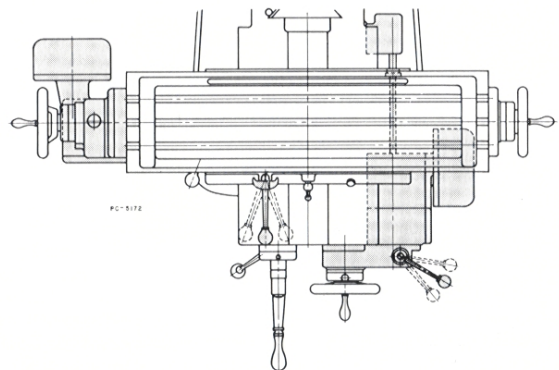

Figure 17B
**Starting the Machine**—If machine is equipped with power feed units, place directional feed levers in neutral or stop positions as shown in Figure 17B. If power feed unit is supplied, turn motor toggle switch (on push button panel) to off position. Check belt adjusting knob, Figure 20B, for tightness to insure maximum drive of belts to spindle sheave. Set the spindle motor switch to the off position.
1. If the machine is equipped with power feed to the table or saddle, place the feed levers in their neutral position. (Fig. 17B)